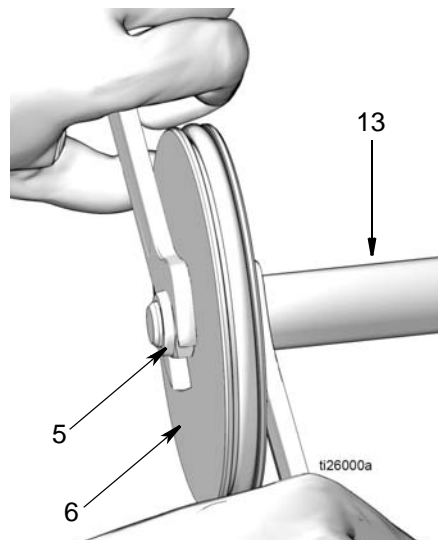

FIG. 20
15. Piston Rod (13) and Piston (6)
- a. Pull piston rod (13) and piston (6) out of air cylinder (2) (FIG. 20).
- b. To separate piston rod (13) and piston (6) use two wrenches, working in opposite directions. Secure one open end wrench to flats of piston rod and the second wrench is used to loosen the nut (5) as shown in FIG. 20.